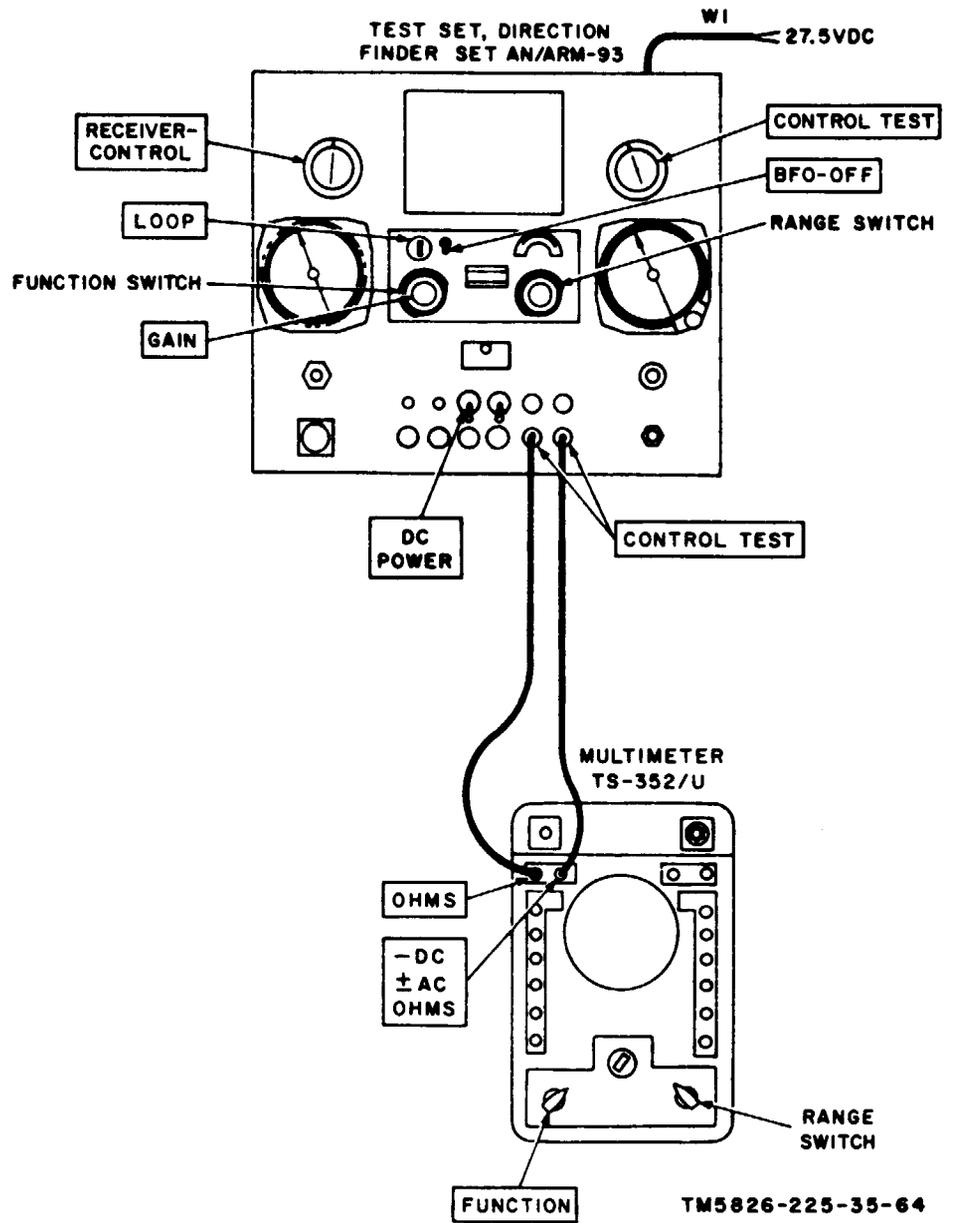

Figure 4-1. Control unit test.
- (1) Test Set, Direction Finder Set AN/ARM-93.
- (2) Multitester TS-352/U.
*b. Test Connections and Conditions.* Set test set DC POWER switch to OFF position. Set RECEIVER-CONTROL to CONTROL position. Replace case of control unit and mount control unit in panel of test set. Connect TS-352/U as shown in figure 4-1.